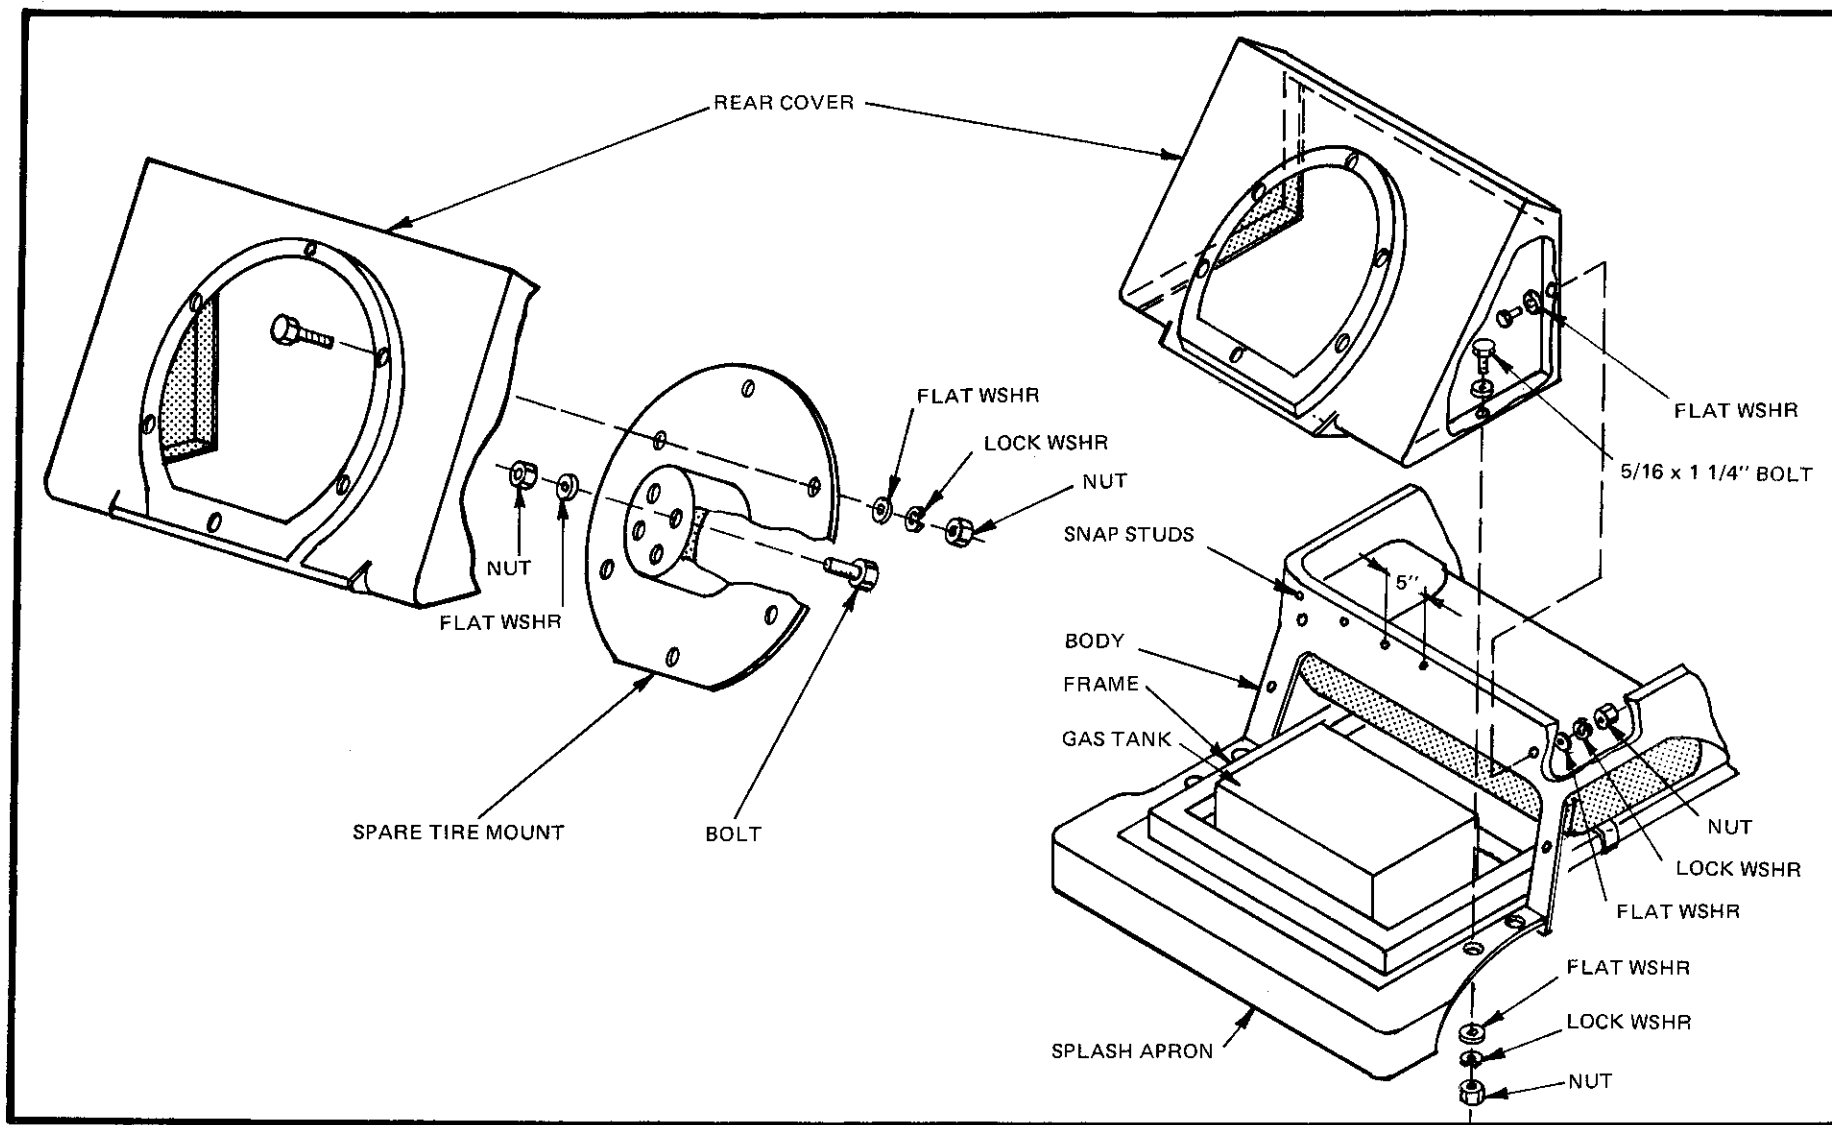

Figure 53
- ☐ Working through wheel wells, and from under splash apron, bolt cover to car through previously drilled holes using 5/16 x 1 1/4" bolts with 2 flat washers, lock washer and nut. (Figure 53)